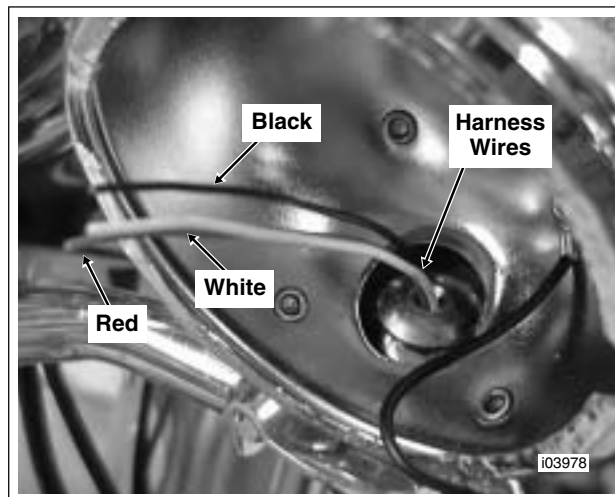

Figure 8-15. Route Harness Wiring into Lamp Bucket
10. See Figure 8-15. Push the three harness wires up through the mounting bracket stem and into the lamp bucket following the route used to remove the original power wire.